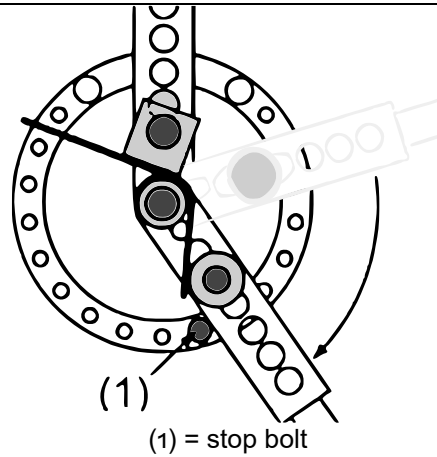

Figure 5: Performing a simple radius bending
5. To limit the bending range, mount the stop bolt (11) into the corresponding bore of the outer ring of the bending angle (Fig. 5).
6. Bend the work piece by pulling the lever in your direction (Fig. 5).